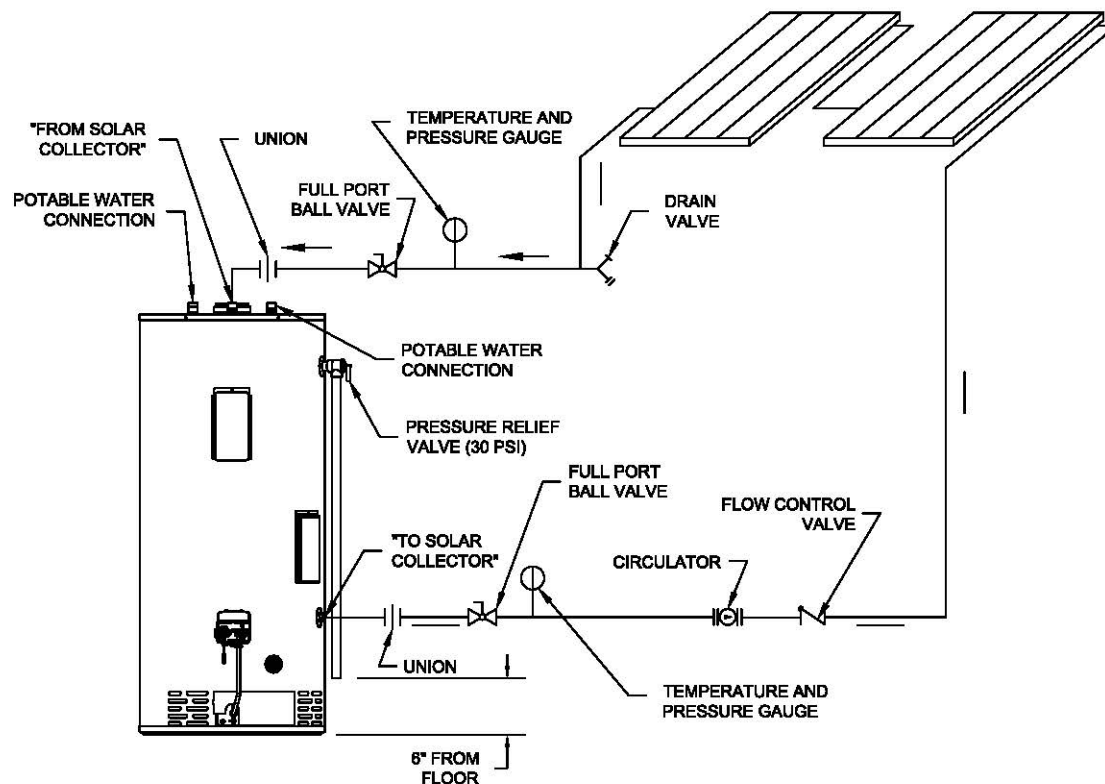

Figure 3 – Solar Heating with an Open Loop System
- 1) Pipe the system as shown in Figure 3.